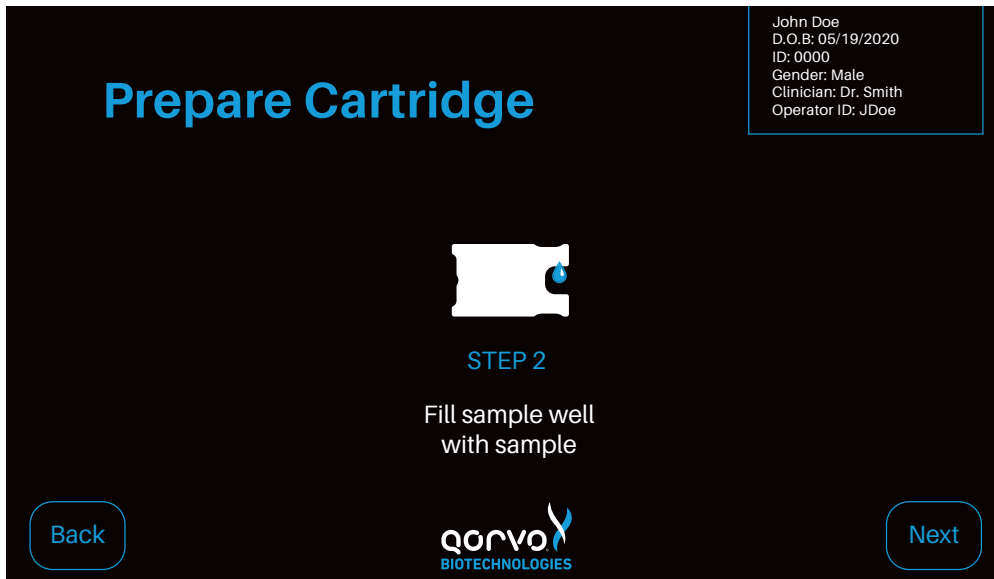

Figure 26
5. Press "Next" when ready to proceed. The screen in Figure 26 will appear.